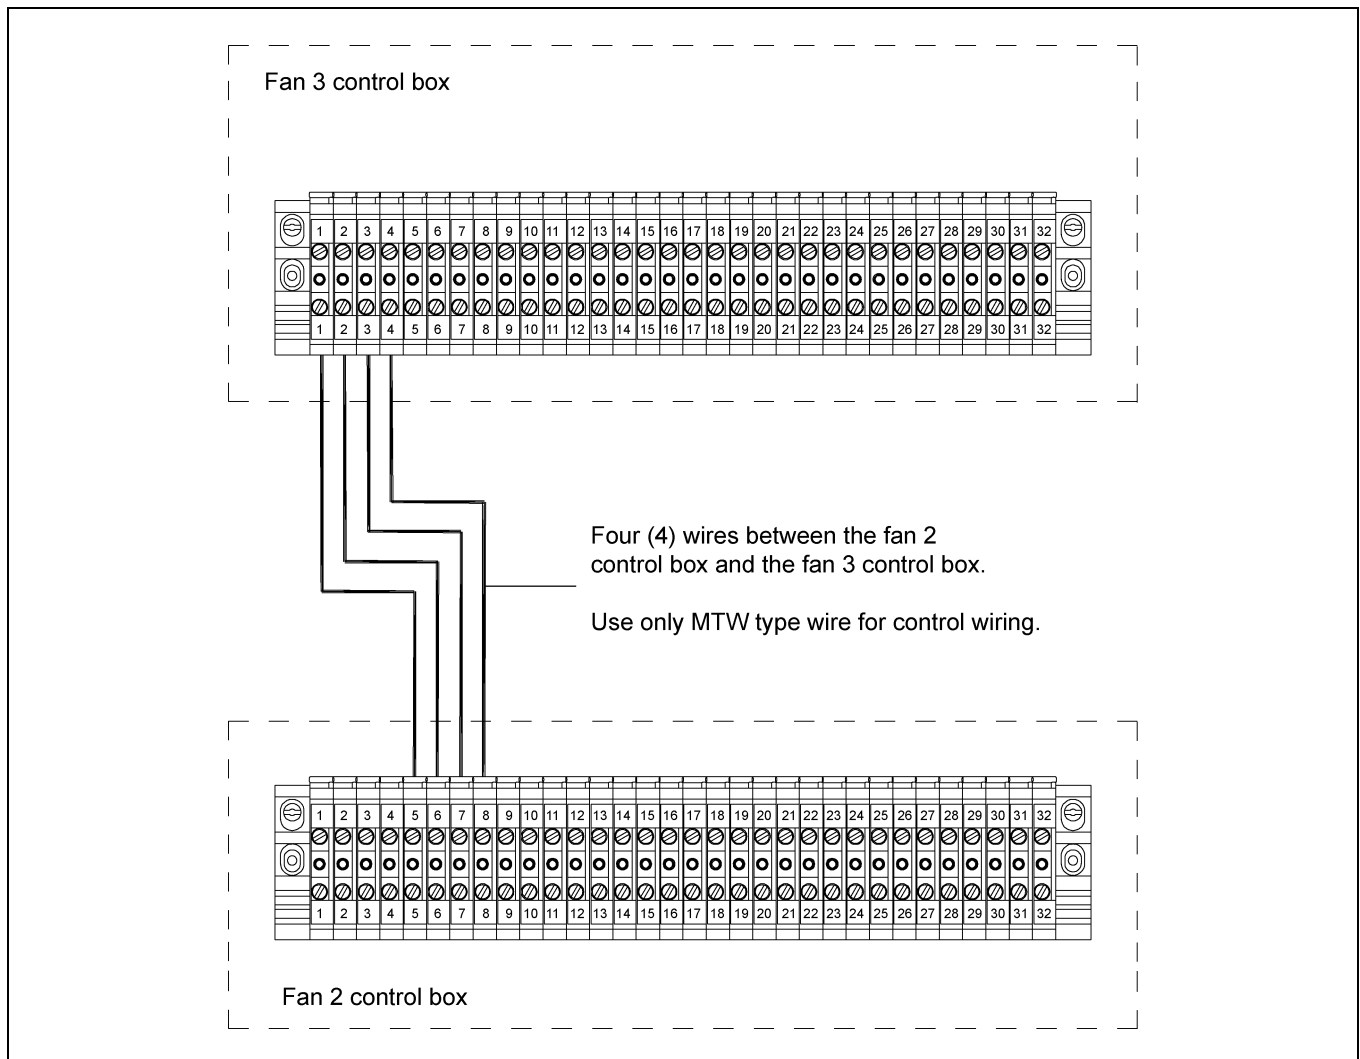

Figure 4N Wiring for a fan 2 unit to fan 3 unit.
1. Run four (4) 16 gauge MTW type wires from the fan 2 unit to the fan 3 unit.
2. Connect the wires as shown in Figure 4N.